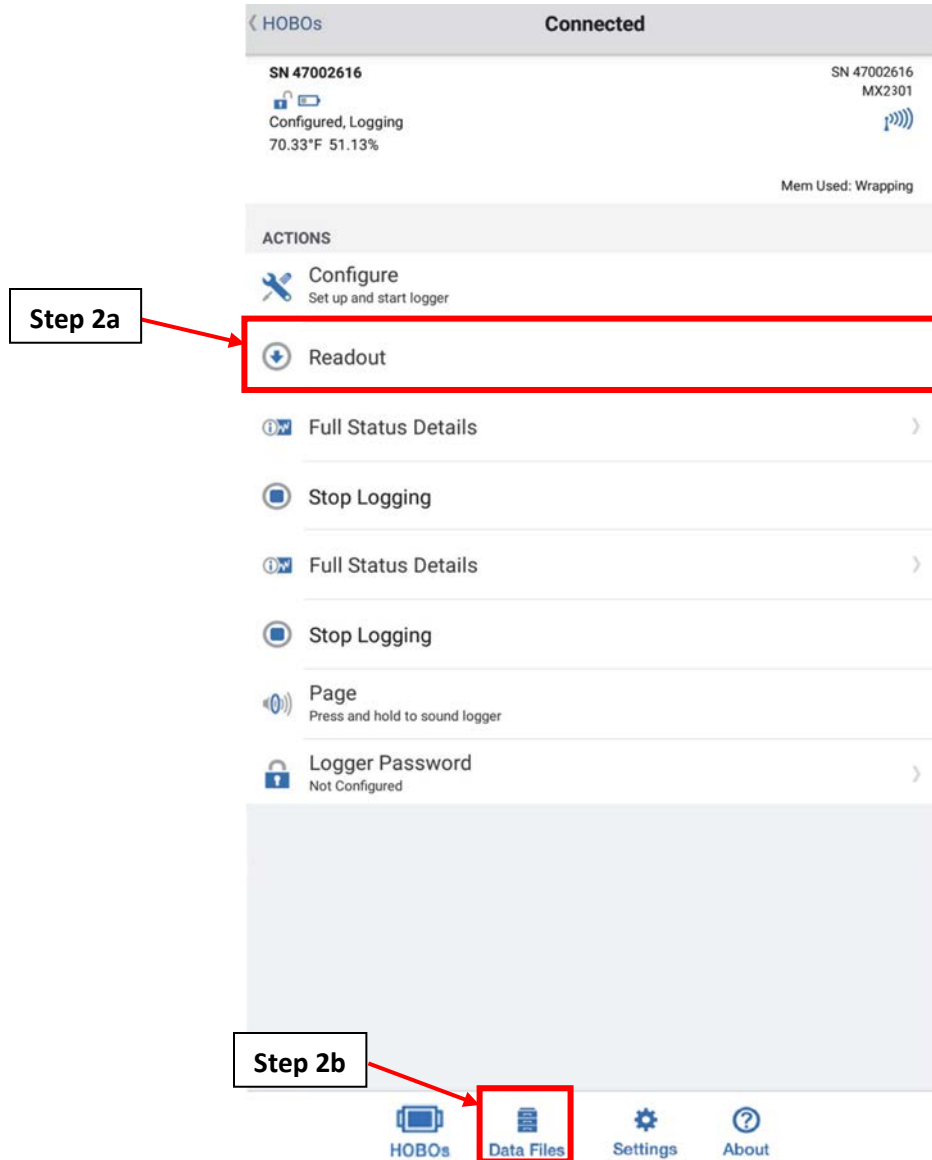

Figure A.7.15: The HOBOMobile “Connected” screen.
2. If satisfied with the accuracy of the measurements, follow steps 1, 2, and 3 in section A.7.5 to return to the “Connected” screen as shown on Figure A.7.15.